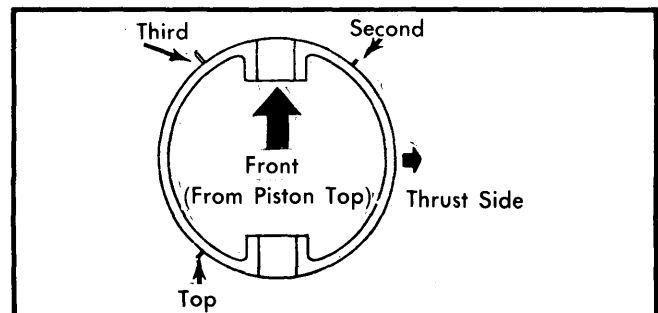

Fig. 4 Installed Position of Piston Rings
**Installation** — Install piston rings on piston with ring gaps spaced as shown in Fig. 4. Code letter and number on ring should face UP. Lubricate piston, crankshaft and cylinder walls. Using suitable ring compressor, insert pistons in cylinders, making sure that notch in piston top is toward front of engine. Use hose pieces on studs to protect crankshaft. Install rod caps and tighten to specifications.